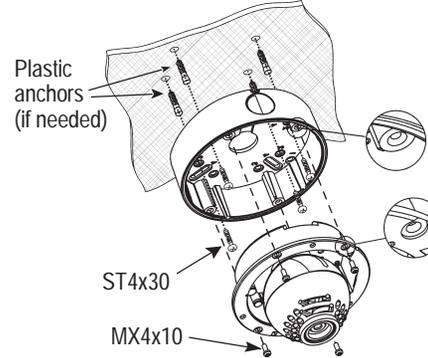

Figure 2 - Flush Mount
- B. If flush mounting, see figure 2.